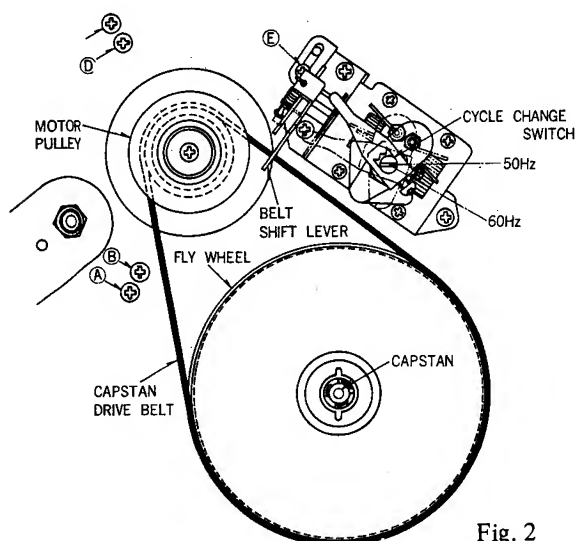

Fig. 2
The Capstan Drive Belt should run in the center of the Motor Pulley and Flywheel, as shown in Figure 1. To position the Capstan Drive Belt, with proper clearance between the Motor Mounting Plate and the Chassis, use adjusting Screws (C) and (A), shown in Figure 2. After adjustment, tighten Lock Screws (B) and (D).
- 1) With Motor rotating in the Normal direction, loosen Screws (B) and (D) and adjust Belt position by turning Screw (C).
- 2) With Motor rotating in the Reverse direction, adjust Belt position by turning Screw (A). After Drive Belt position has been properly adjusted to run in the center of the Motor Pulley and Flywheel (according to direction of motor rotation), lock by tightening Screws (B) and (D).
- 4) If the Drive Belt contacts the Belt Shift Lever, loosen Screw (E), and move the Belt Shift Lever Stopper so that the Belt does not contact the Shift Lever.